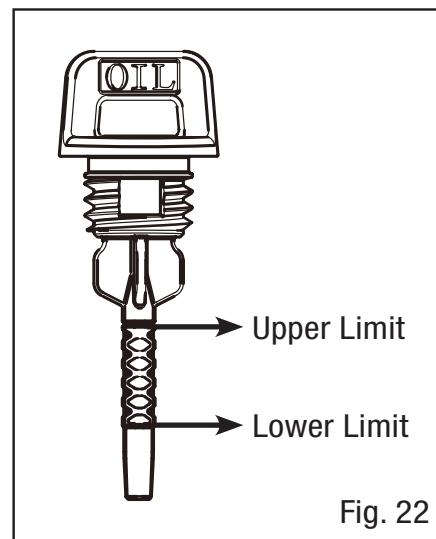

Fig. 22
3. Insert the dipstick into the oil fill opening without screwing in. Remove the dipstick to check the oil mark (Fig. 22). Add oil if the oil mark covers less than one half of the dipstick.